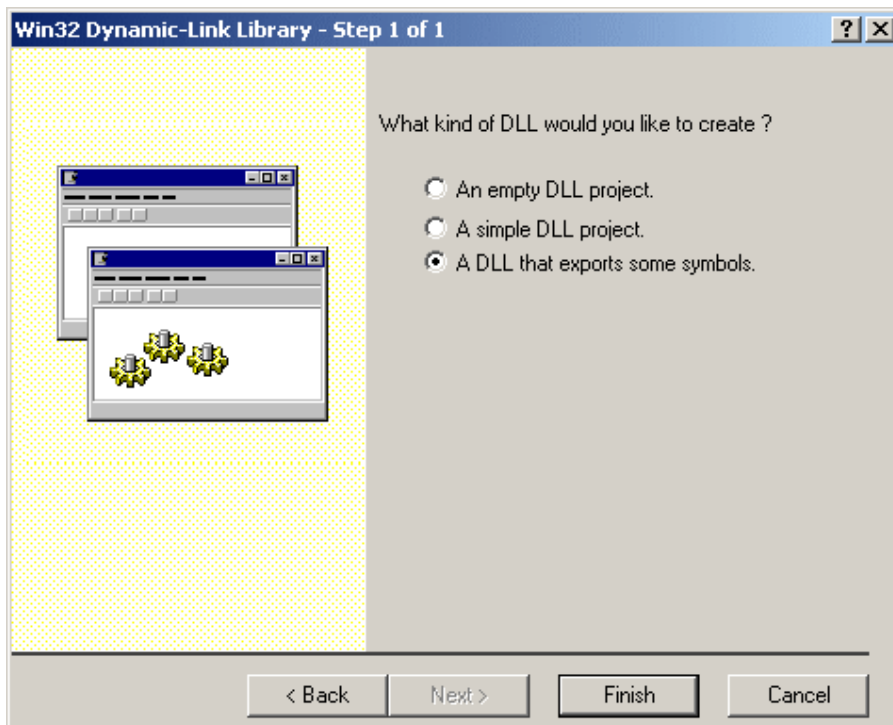

Figure 2: Select a DLL that exports symbols
3. Click on "OK" and then select "A DLL that exports some symbols" (see figure 2).